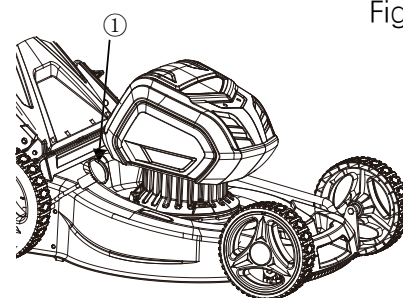
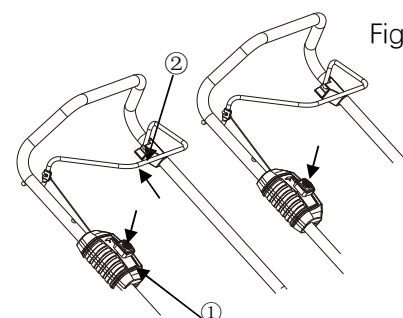

Fig. 6
Fig.7
- 2) Remove the Safety Key (③).
- 3) Press and hold the battery latch button at the top of the Lithium-Ion battery pack (②).
- 4) Remove Lithium-Ion battery pack (②) from the Lawn Mower.
8. Adjustment of cutting height (See Fig.6)
9. Starting/Stopping the PTG2220 Lithium-Ion Battery Lawn Mower (See Fig. 7)
- 1) Open the battery door and insert the Safety Key into the slot. Then close the battery door. (See Fig.6)
- 2) Pull the safety interlock lever (②) down to the handle to start the PTG2220 Lithium-Ion Battery Lawn Mower .
- 3) Press and hold the safety interlock button (①) (See Fig.7)